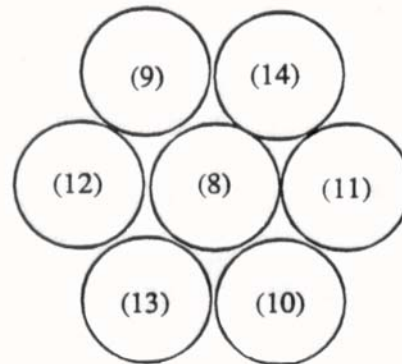

Figure 1.2. Drum Payload Assembly, Typical
- 1.2.14 Apply nine additional wraps of stretch wrap so there is overlap on top of drums (see Figure 1.2, Drum Payload Assembly, Typical).